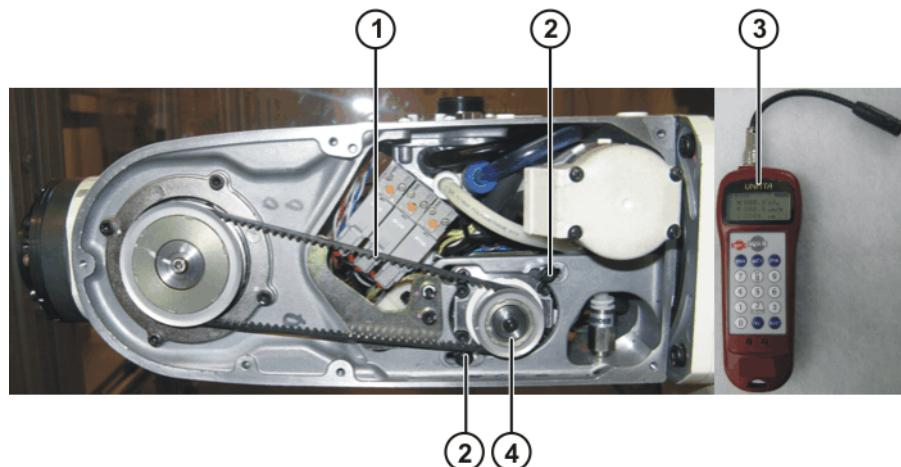

Fig. 11-9: Measuring the toothed belt tension on A6
7. Slightly slacken the 2 screws (**>>>** Fig. 11-9) on motor A6 until it is just possible to shift the motor.